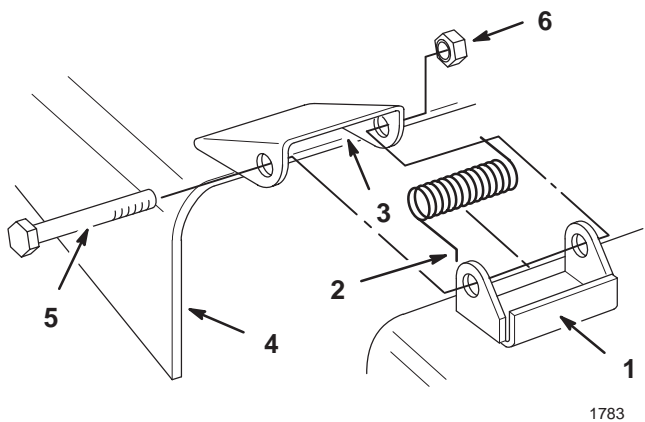

Figure 2
1. Place the springs into the brackets on the mower with the hooked ends over the raised back (Fig. 2).
2. Align the grass deflector with the holes in the brackets and the straight ends of the spring in the space under the hinge and above the deflector (Fig. 2).
3. Secure the deflector to the bracket with bolts through the grass deflector, springs, and brackets. Secure them with the locknuts (Fig. 2).